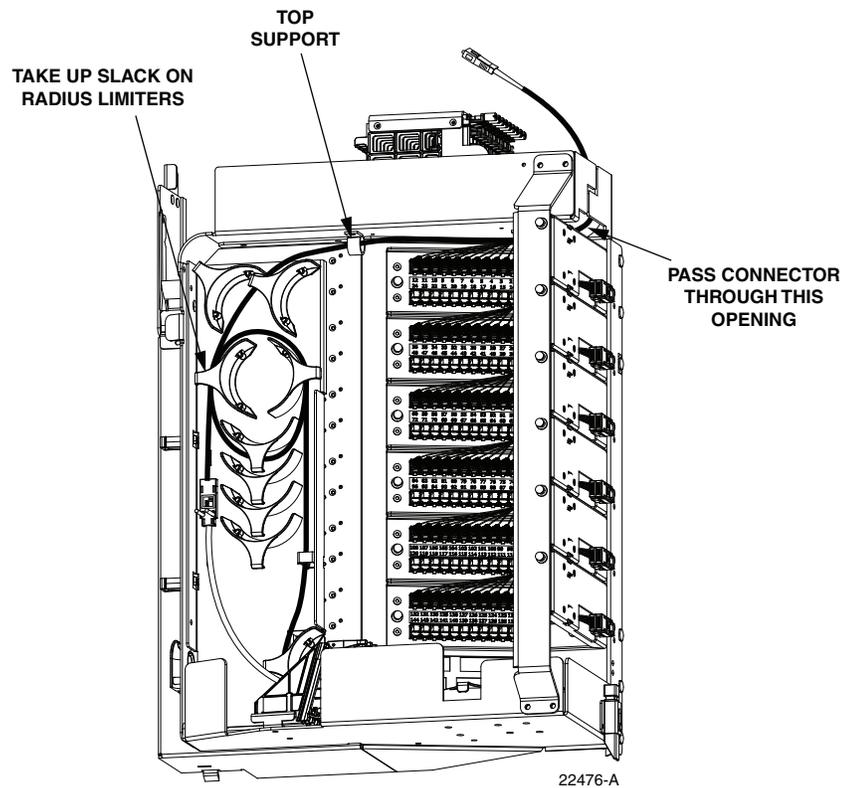

Figure 20. Re-Routing the Feeder Cable Fiber
6. When the feeder cable connector and fiber are free, pass the connector through the opening located behind the splitter compartment as shown in Figure 20.